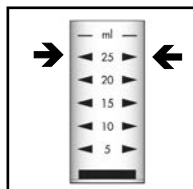

Figure 1
1. Fill the sample cup to the 25 mL mark with the sample to be tested, being careful to minimize turbulence (fig. 1).